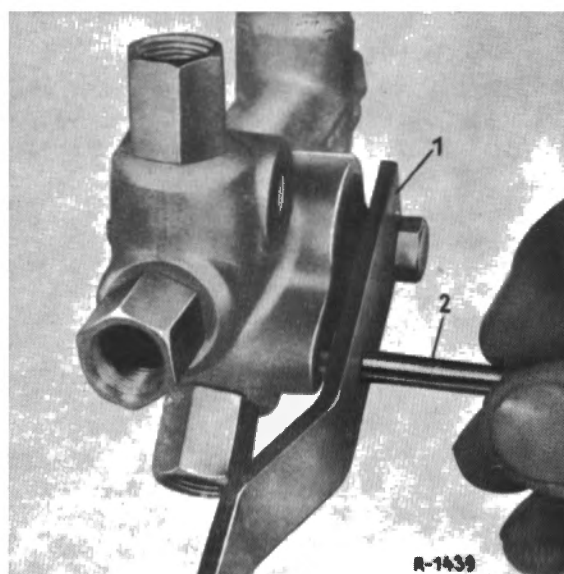

Fig. 40-5/4
6. Fix the leveling valve in its neutral position by Pin 112 589 01 63 00 (Fig. 40-5/4).